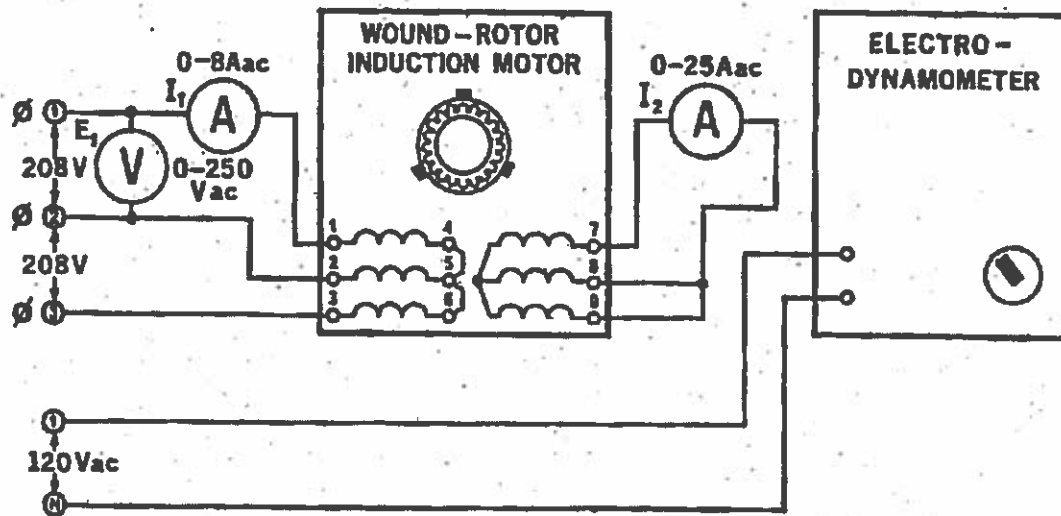

Figure 50-2.
- ☒ 5. a. Connect the circuit shown in Figure 50-2. Note that the fixed 3 ϕ output of the power supply, terminals 1, 2 and 3 are now being used.